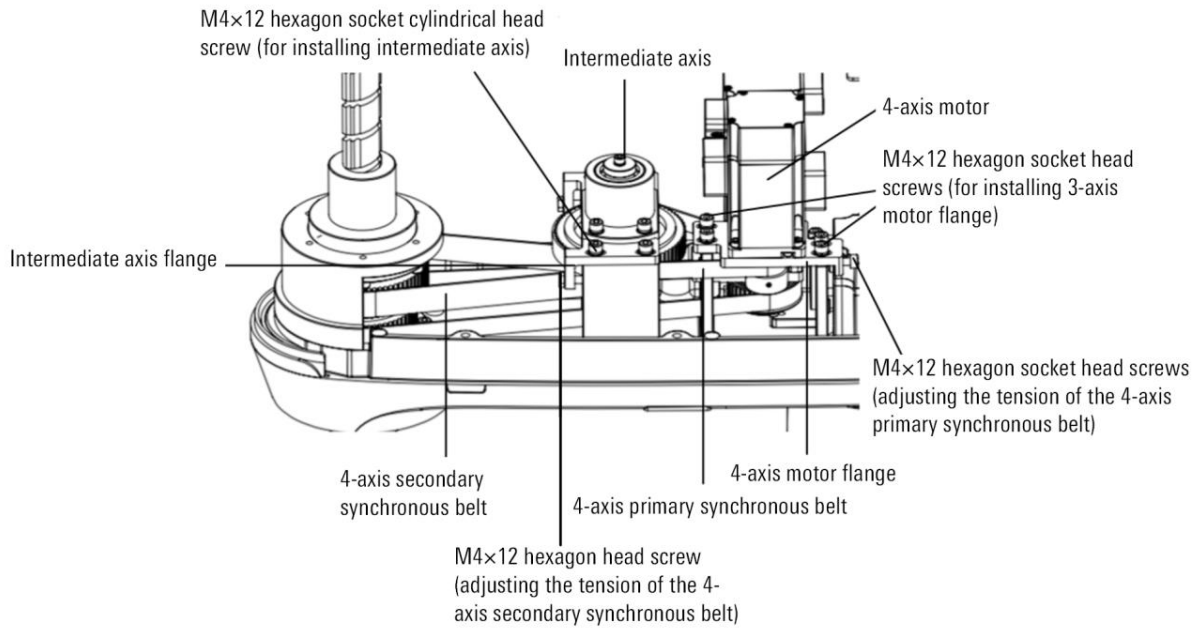

Figure 8-12 Diagram of disassembling 4-axis motor flange and intermediate shaft
- Step3. Use an Allen wrench to remove the four M4×12 inner hexagon socket head screws for installing the flange of the 4-axis motor, and then slowly loosen the a M4×12 inner hexagon socket head screw that adjusts the tension of the 4-axis primary timing belt. Remove the flanges of the 4-axis motor and 4-axis motor together, as shown in Figure 8-12.
- Step4. Use an Allen wrench to unscrew and remove the four M4×12 hexagon socket head screws for installing the intermediate shaft flange, and then use a common wrench to slowly loosen the two M4×12 hexagon head screws that adjust the tension of the 4-axis secondary timing belt. Take off the intermediate axis and the intermediate axis flange together, as shown in Figure 8-12.